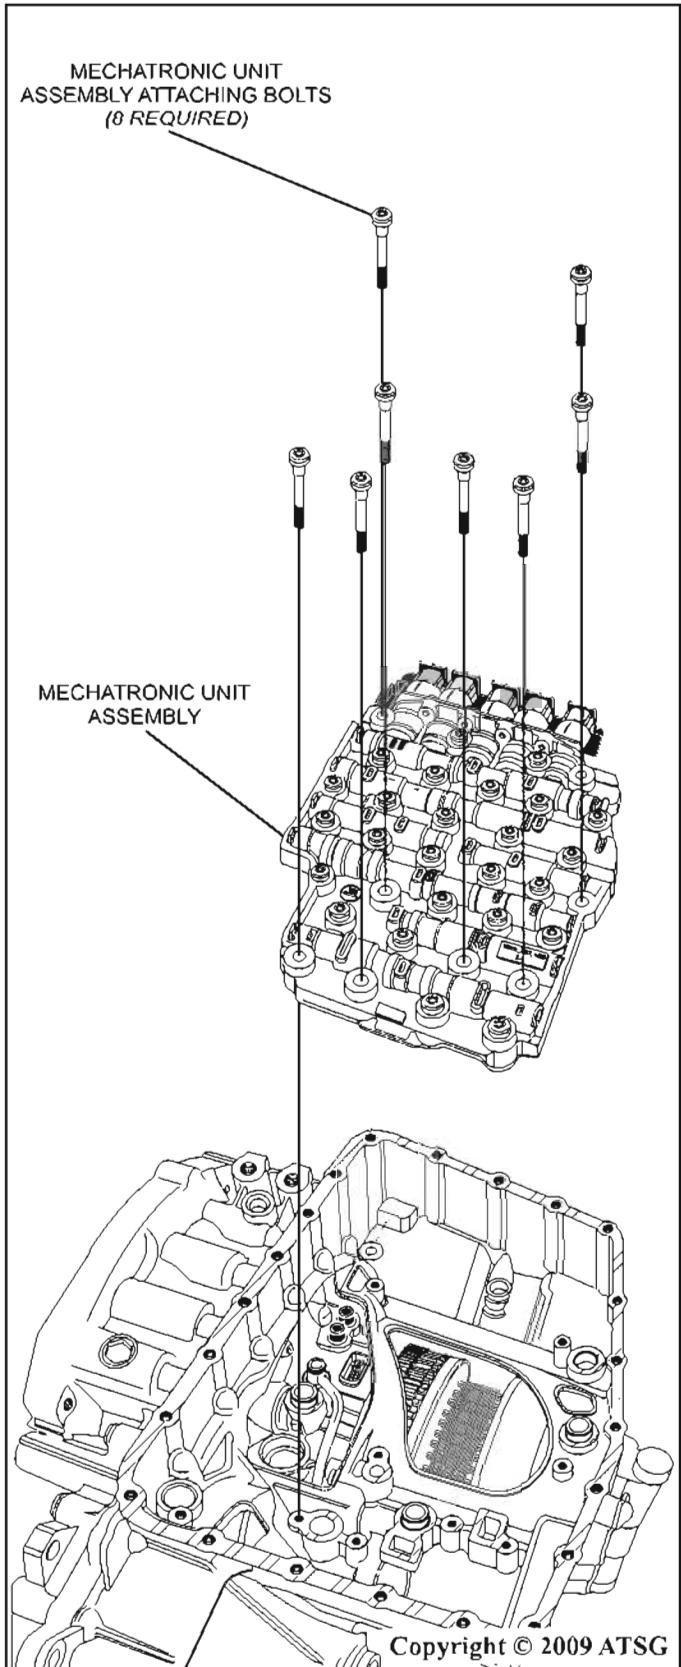

Figure 10
*(8 required)* as shown in figure 10.